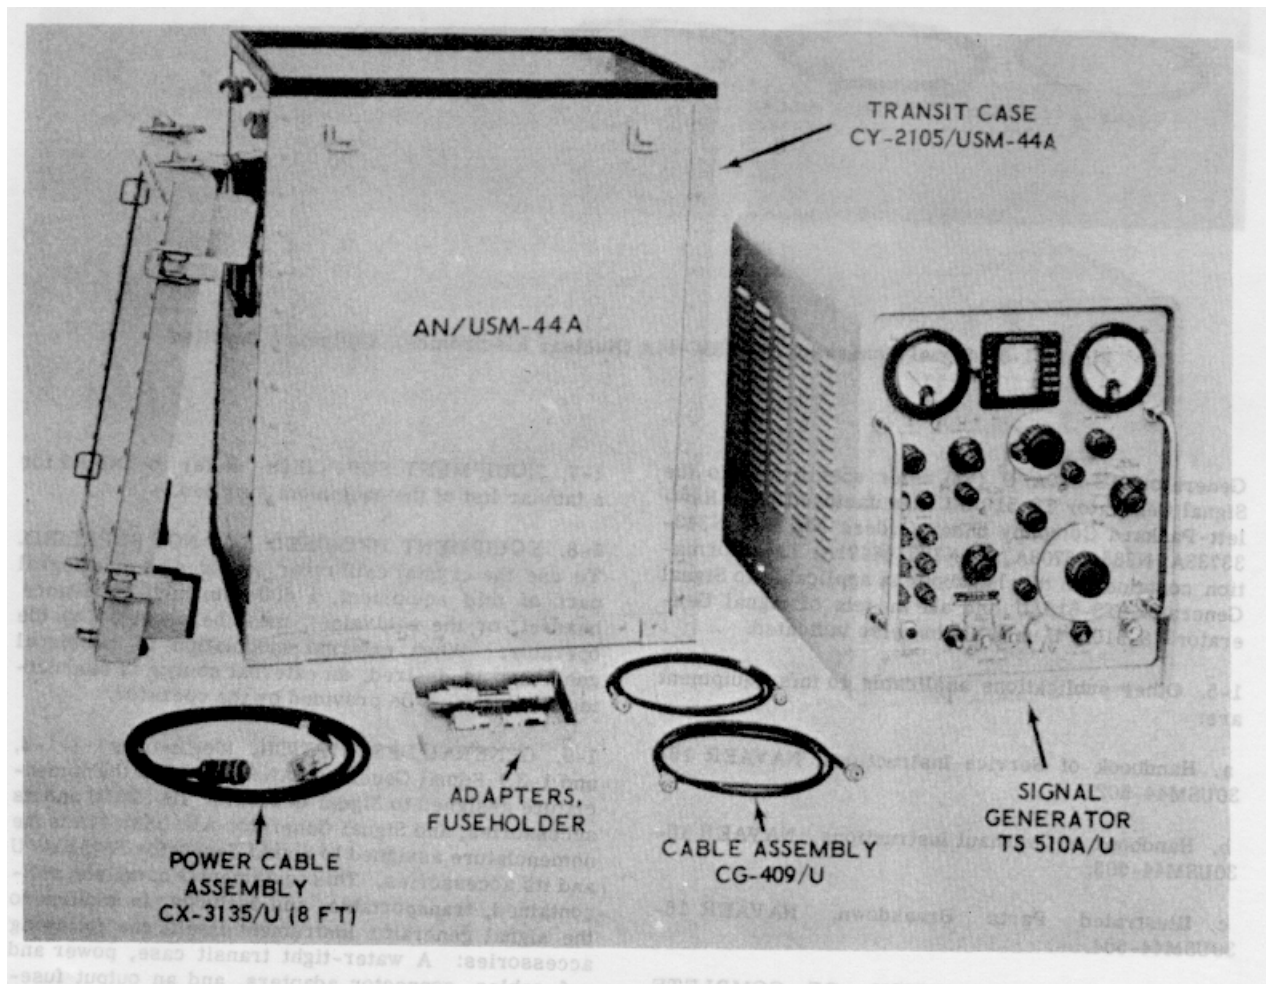

Figure 1-2. Signal Generator AN/USM-44A (Hewlett-Packard), Equipment Supplied
**1-2.** This publication comprises operating instructions for Signal Generator Test Set AN/USM-44 (figure 1-1) and Signal Generator Test Set AN/USM-44A (figure 1-2) manufactured by the Hewlett-Packard Company, Palo Alto, California, and Signal Generator Test Set AN/USM-44A (figure 1-3) manufactured by the Nuclear Electronics Corporation, Philadelphia, Pennsylvania.